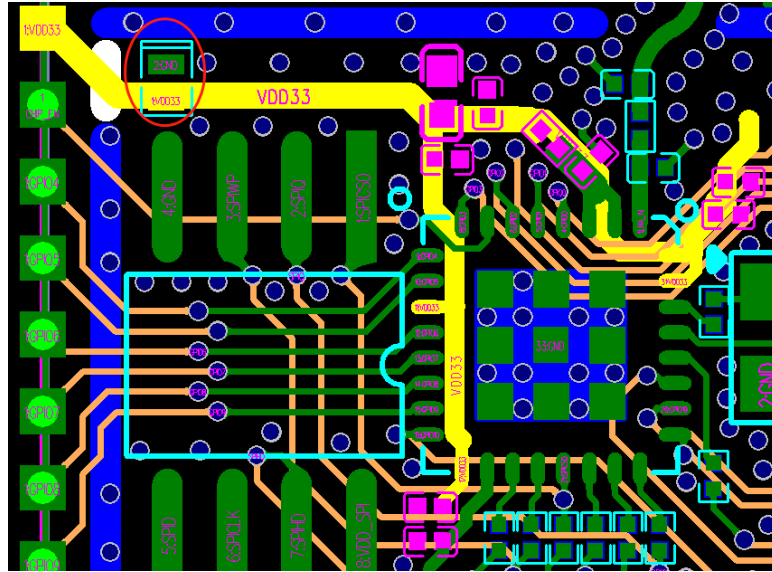

Figure 15: ESP32-C3 Family Power Traces in a Four-layer PCB Design
- The 3.3 V power traces, highlighted in yellow, are routed as shown in Figure 15. The width of the main power traces should be at least 20 mil. The width of the power traces for pin 2 and pin 3 should be at least 15 mil. The width of other power traces is preferably 10 mil.
- As shown in Figure 15, an ESD protection diode is placed close to the power port (marked in red circle). A 10 μ F capacitor is required before the power trace is connected to the ESP32-C3 family chip, to be used in conjunction with a 0.1 μ F capacitor. Then the power traces are divided into two ways from here and form a star-shape topology, thus reducing the coupling between different power pins. Note that all decoupling capacitors should be placed close to the power pin, and ground vias should be added close to the ground pin of decoupling capacitors to ensure a short return path.
If you need to add a thermal pad EPAD under the chip on the bottom of the module, it is recommended to employ a nine-grid on the EPAD, cover gaps with ink, and place ground vias in the gaps, as shown in Figure 15. This can avoid tin leakage when you solder the EPAD to the base board.